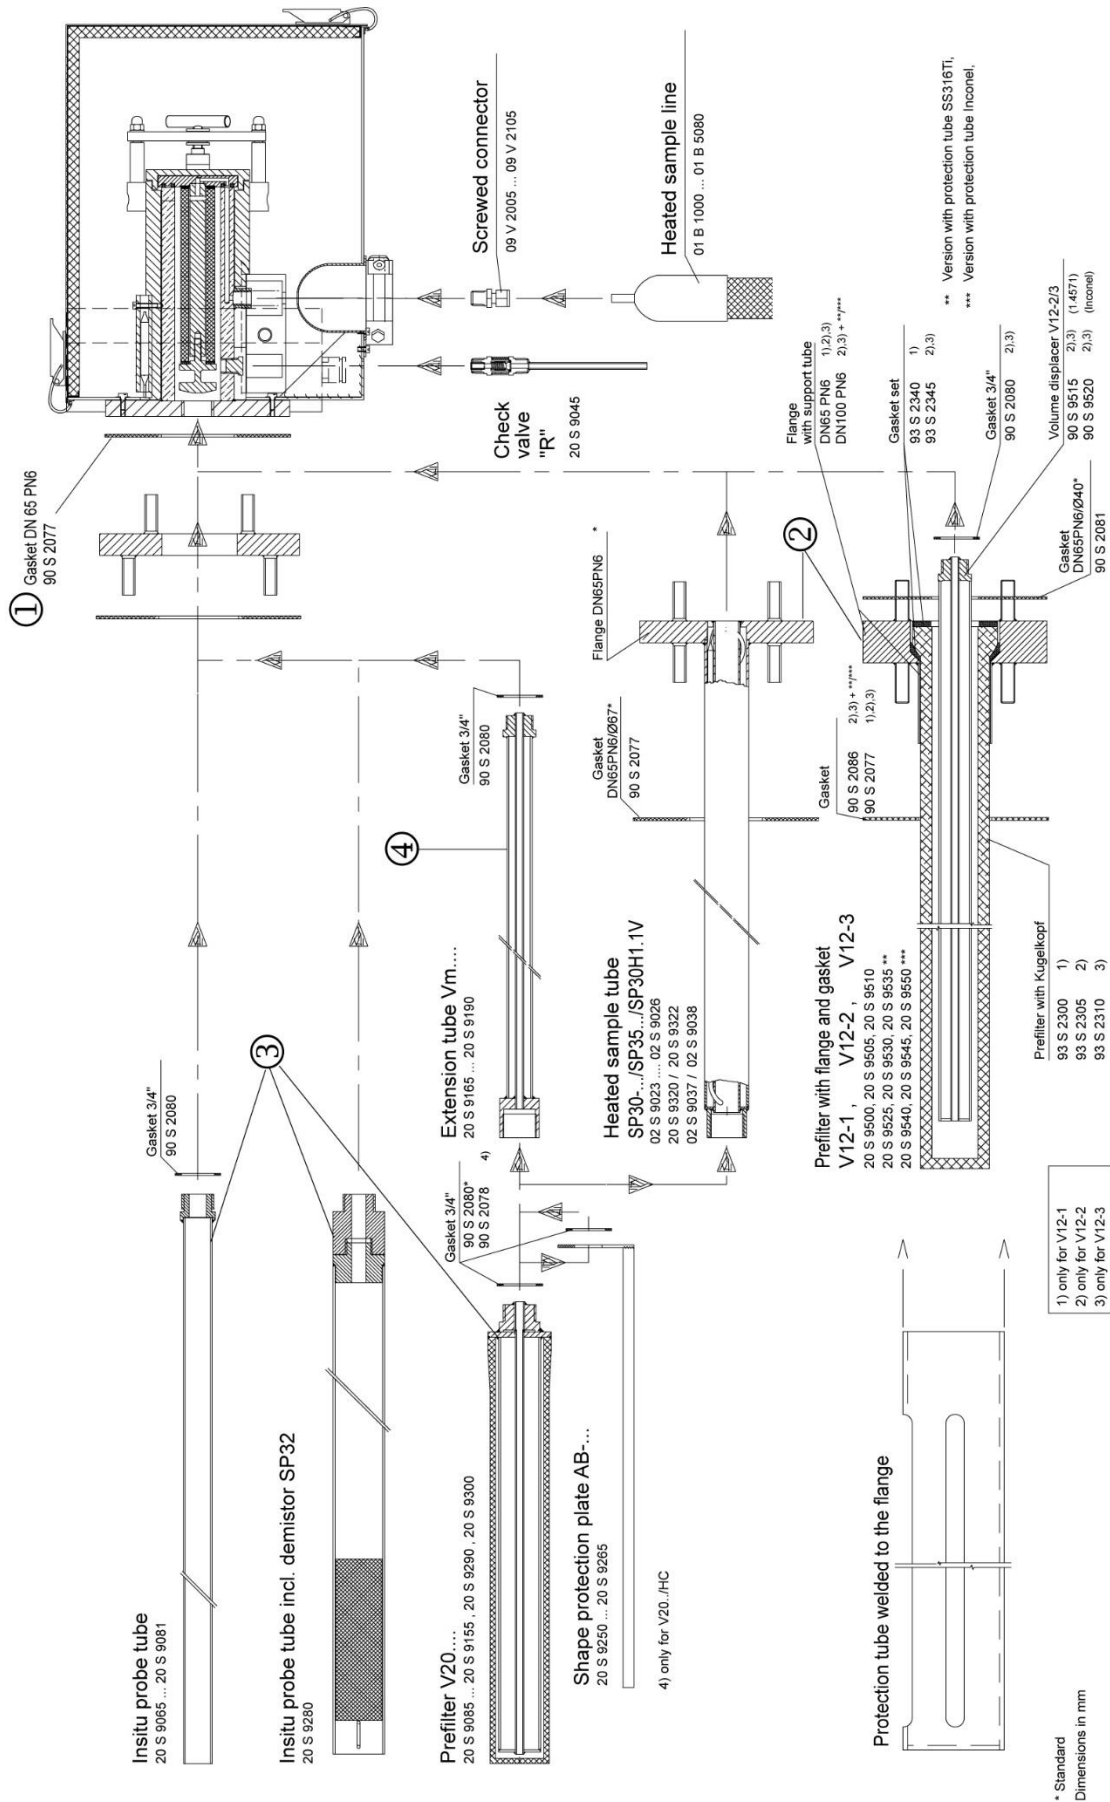

Figure 6 Mounting of sample tube or prefilter
- Insert flange seal ① (Fig. 6) between sampling flange and probe flange.
- If the heated probe tube type **SP30/35** or the ceramic prefilter type **V12** is used, then the probe is to be screwed to their flange ② (Fig. 6)(with welded threaded bolt). First insert the flange seal between the two flanges.
- Screw either the probe tube or prefilter ③ (Fig. 6) with thread G3/4"o directly or using an extension tube ④ with the 3/4" flat gasket into the 3/4" inner thread of the flange of the probe and tighten.